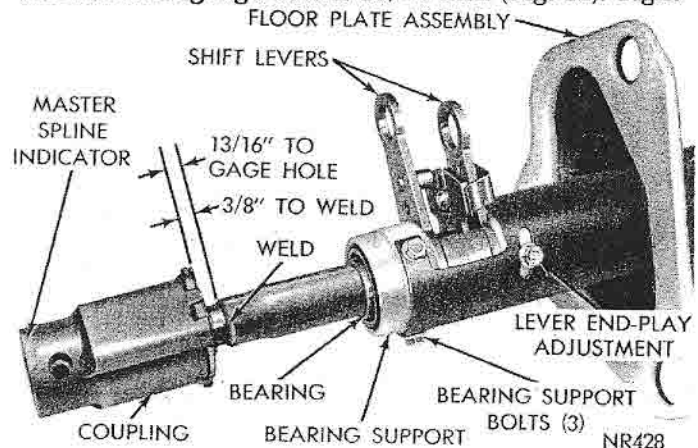

Fig. 12—Steering Column—Lower End
(3) Hold column assembly with bracket against the instrument panel support. Install but **do not tighten** the two upper bracket nuts.
(4) **Center steering shaft coupling at midpoint of its travel.** This is accomplished by moving column and bracket assembly fore and aft in the instrument panel support so dimension between top of coupling and center of gauge hole is 13/16 inch (Fig. 12). Tight-